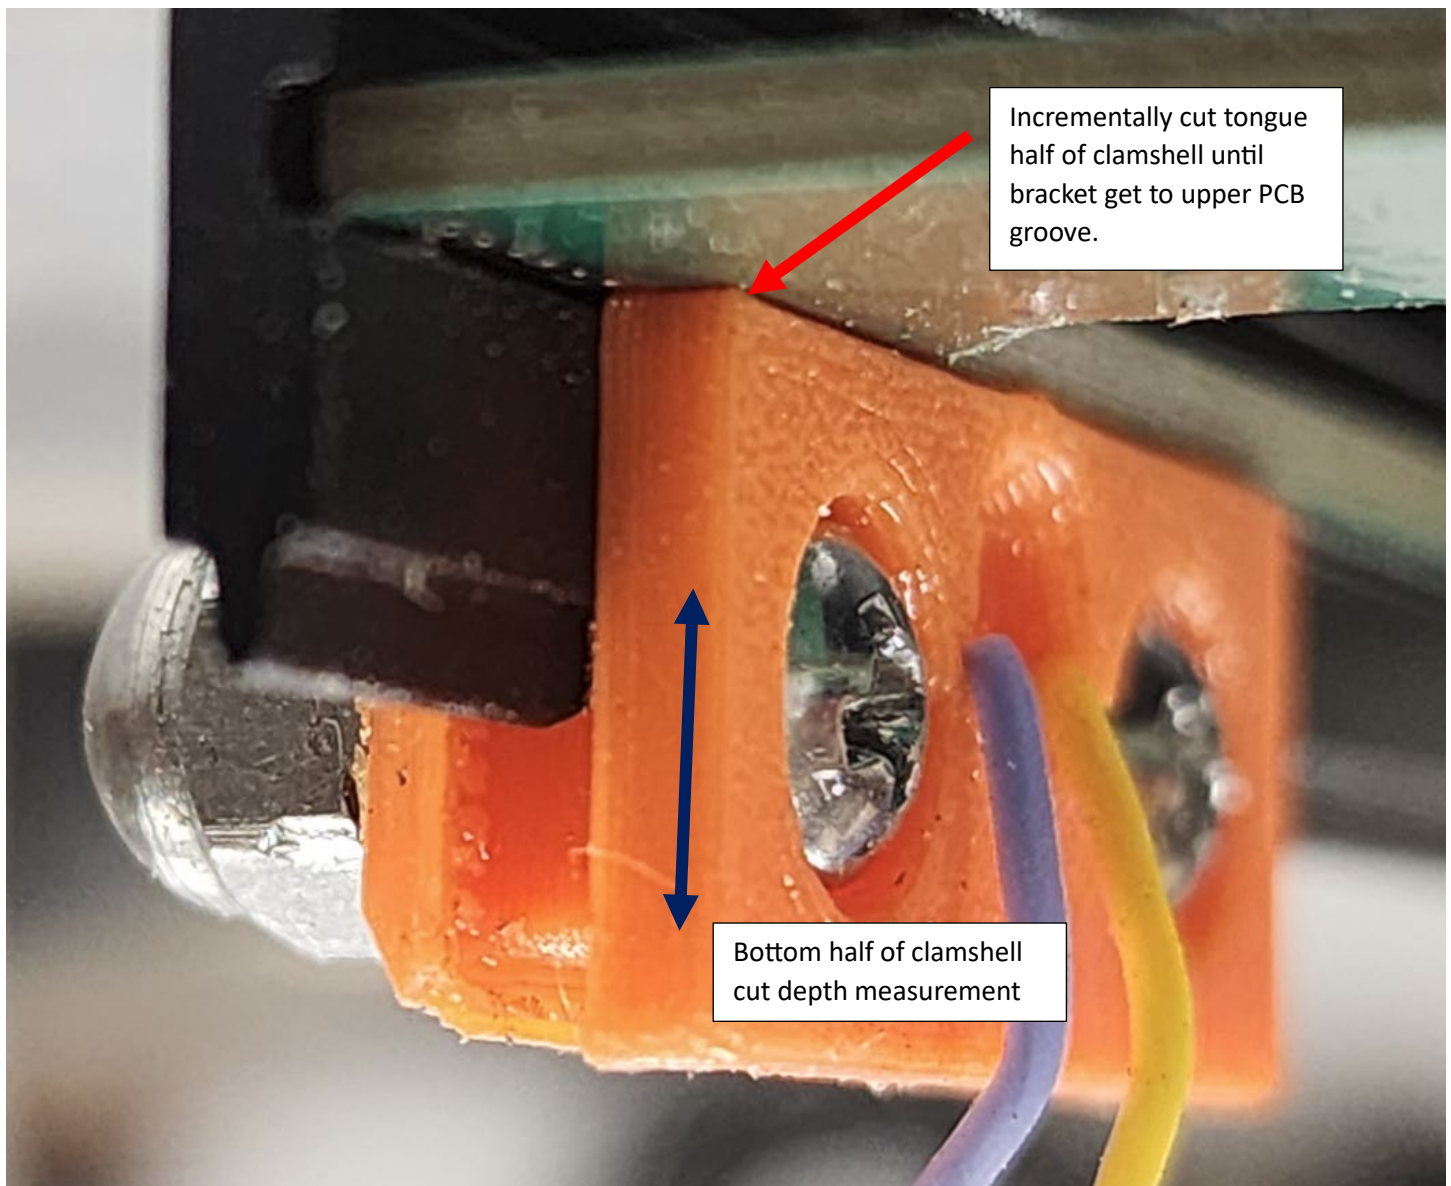

Figure 3: Placement of bracket on the clamshell
4. Once you have a nice snug side-to-side fit, you can start cutting down into the full thickness of the upper half of the case. There is about 11.3mm of clearance between the two PCBs in this area and touch key bracket is 10.5mm at the vertical shoulders so there is some wiggle room for placement. The distance between bracket groove and the shoulder is 2.5mm. I recommend measuring 3mm down from the upper PCB as your depth of cut. Once again "sneaking up" on that depth is the safest way to go. When done with this step the bracket should fit very snugly up to the slot for the upper PCB. (See Figure 3, red arrow) Take your time and pause if you feel yourself starting to want to rush.
5. With the bracket installed into upper enclosure, use a caliper to measure the distance between the shoulder of the tongue on the upper half of the case to the groove on your printed bracket. This will be the depth of your cut into the lower half of the case. (See Figure 3, blue arrow)